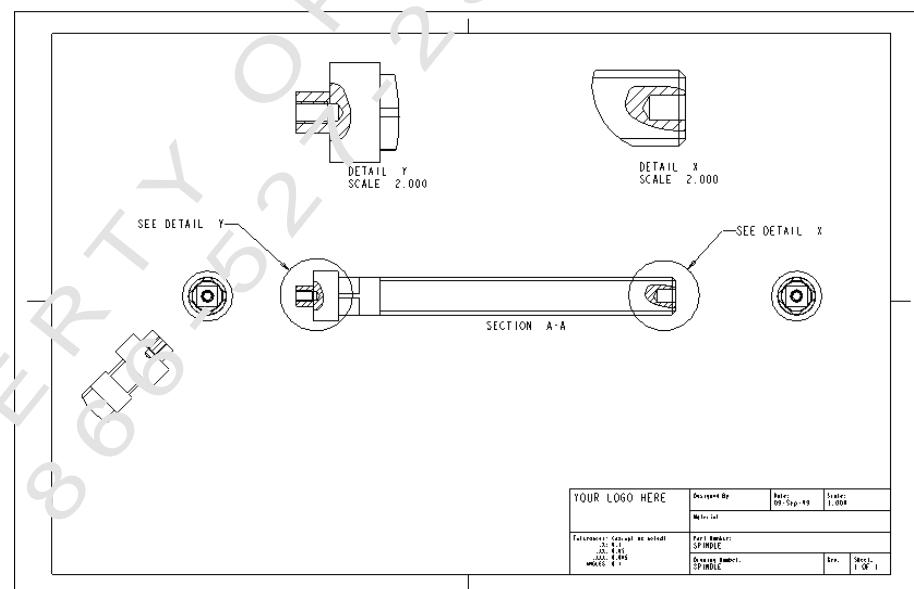

**Figure 1–93**
2. Once unlocked, select the Auxiliary Partial view and drag the view to the location, as shown in Figure 1–93.